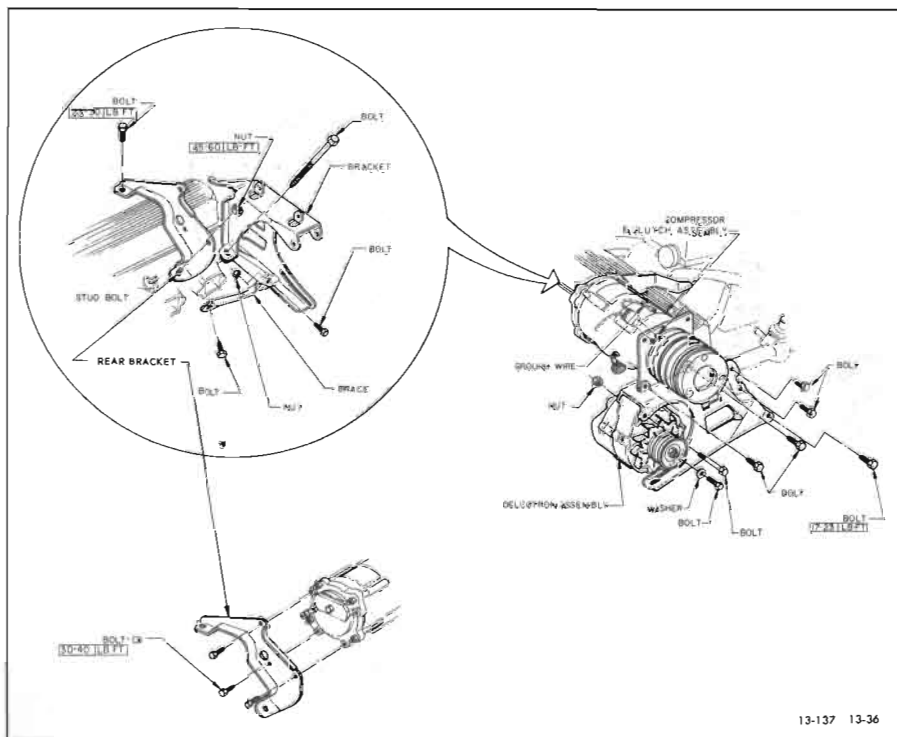

Figure 13-36—Compressor Installation 46000 Series Only
1. Install reverse of removal and use new "O" rings. Torque bolts as specified in Figure 13-36.